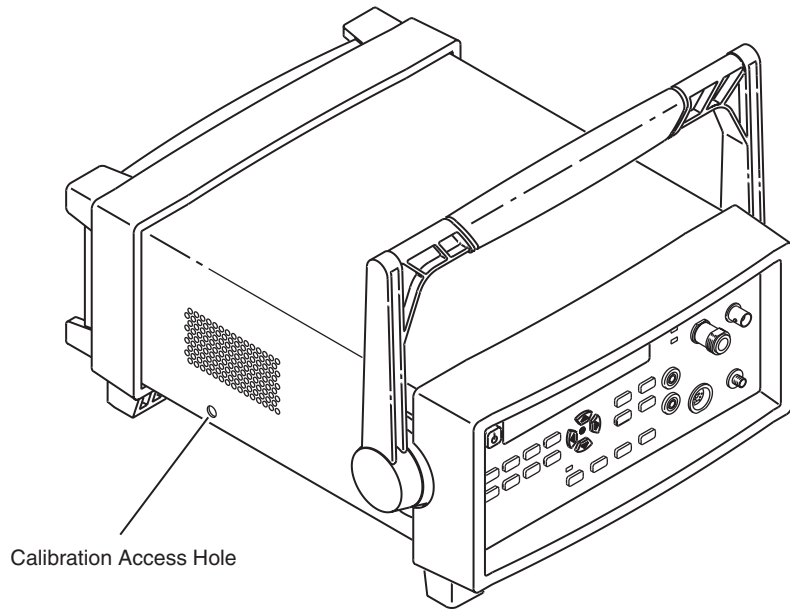

Figure 2-1. Calibrating the 10 MHz Frequency Reference Oscillator
- 3 If there is a label covering the calibration adjustment access hole, remove it (see Figure 2-1).